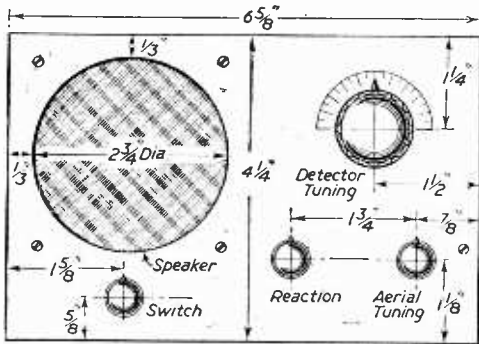

Fig. 2.—Panel details.
The panel is cut from 3-ply to the dimensions shown in Fig. 2. This fits flush in the
L.T.— shown on switch wiring (See Fig. 2)